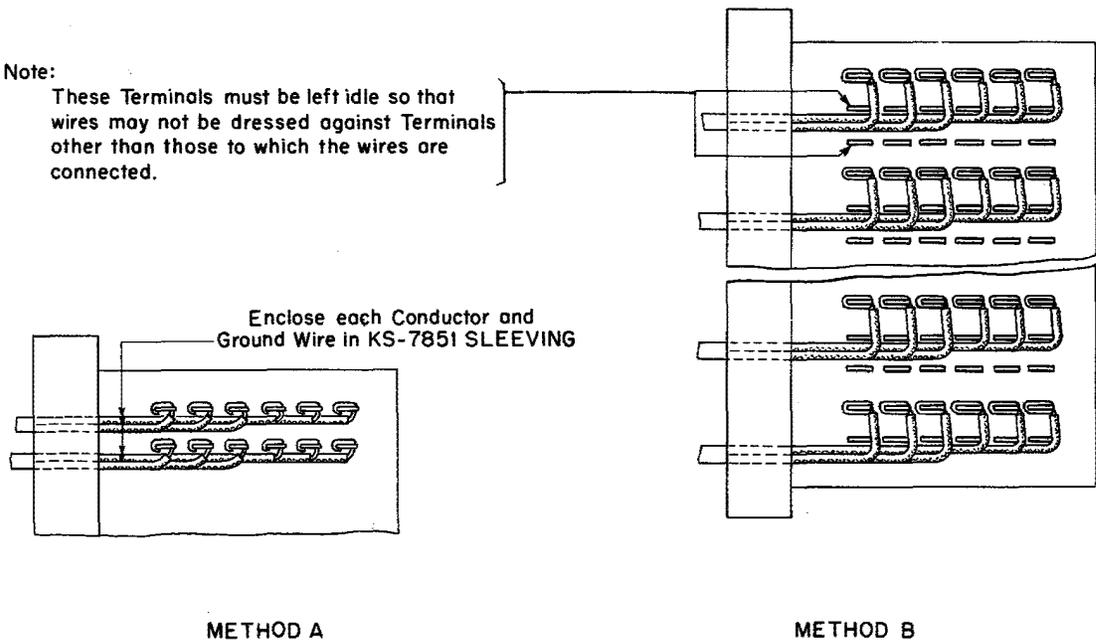

Fig. 12 - Connecting BF Wire to Terminal Strips
10.04 Prepare BF wire as covered in Part 9. Two methods are provided for terminating the three wires on the terminal strip as shown in Fig. 12, Methods A and B.